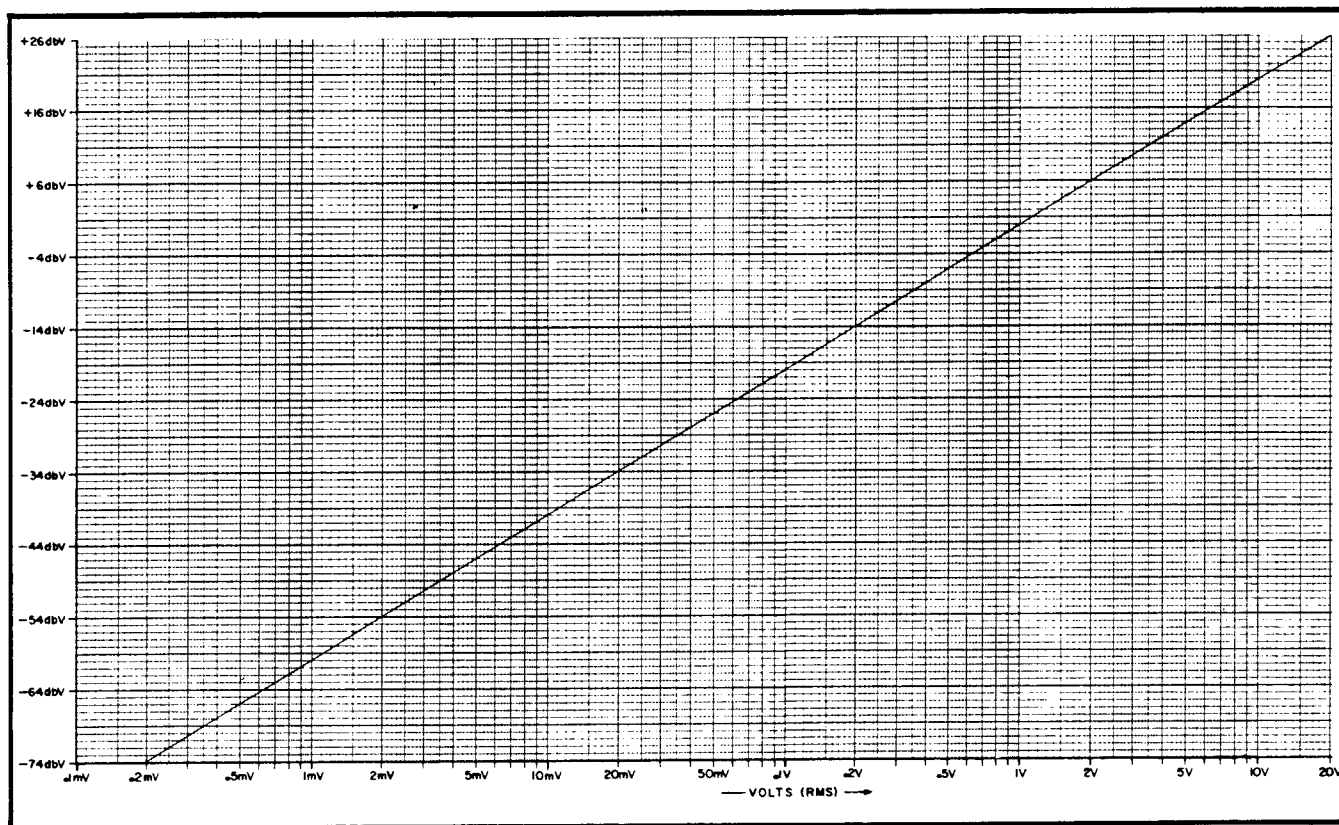

Figure 3-6. dBV to Volts Conversion.
3-44. Log A and Log B Measurements. The single channel amplitude functions A or B, permit direct measurement of either input level in dBV. These readings can be converted to ac volts using the graph shown in Figure 3-6. To measure the level applied to either input channel, proceed as follows:
- If desired, convert the dBV reading to rms volts using the graph shown in Figure 3-6.